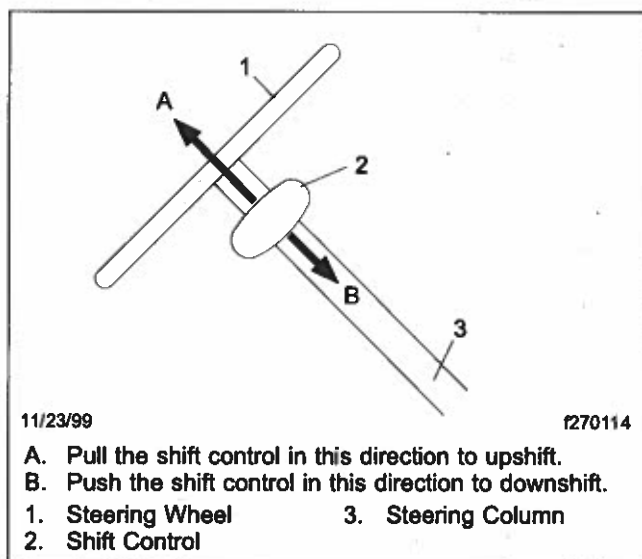

Fig. 8.3, SmartShift Control Operation
stop the vehicle. The SmartShift transmission shift control (**Fig. 8.3**) is used with the AutoShift transmission.
2. With the transmission in drive in the manual mode, request an upshift by pulling upward on the control. See Fig. 8.3. If the requested gear is available, the transmission will upshift.